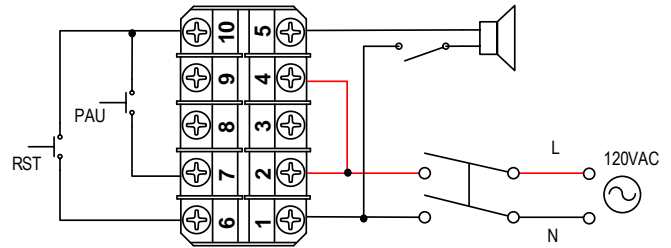

Figure 5. Connecting reset switch and pause switch to JSL-64A.
**Note A.** Terminal 4 and 5 are for normally-open (NO) relay output. When this relay is energized (or when the OUT LED is on), pin 4 is connected to pin 5 internally; When the relay is NOT energized (or when the OUT LED is off), pin 4 is disconnected from pin 5. The relay is a "dry switch" that does not provide power by itself. Please see the wiring examples in Section 7.
a) Connecting a normally open (NO) momentary push button switch between the pin (6, 7 or 8) to the COM (10). Please note, the function starts when you release (or open) the button of the switch, not when you press down the switch. See Figure 5.